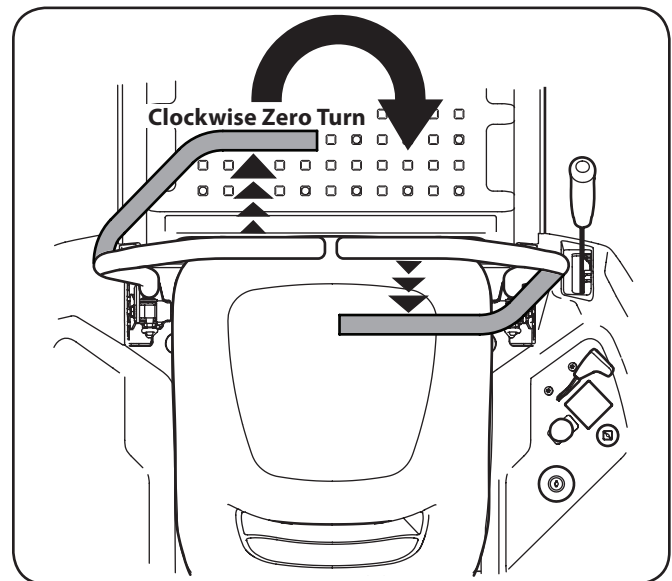

Figure 5-9
2. To turn clockwise, move the left control lever forward while simultaneously moving the right control lever rearward. See Fig. 5-9.